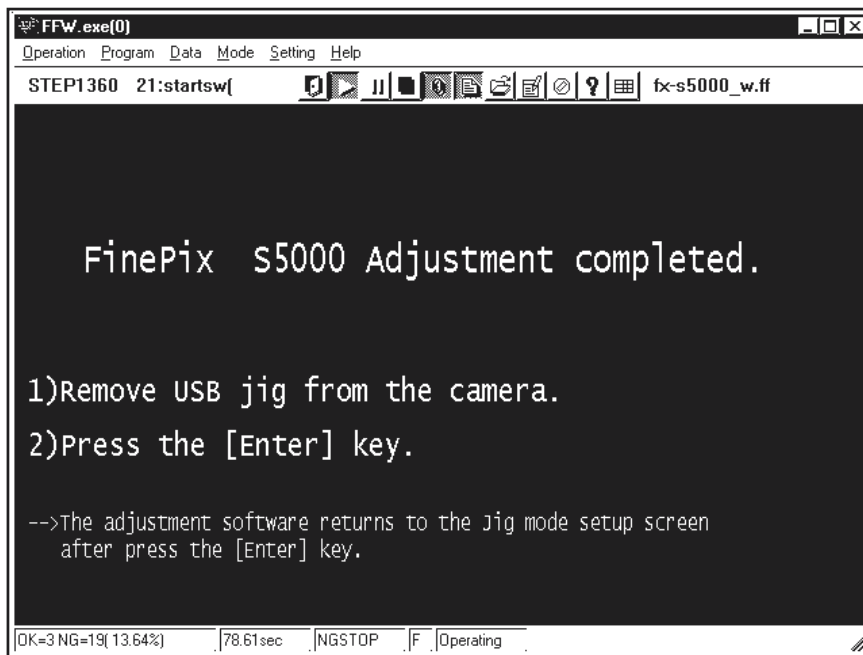

Fig.43
---> When the settings are completed normally they are saved to the flash ROM, and the **[FinePix S5000 Adjustment finished Screen (Fig.43)]** is appears.